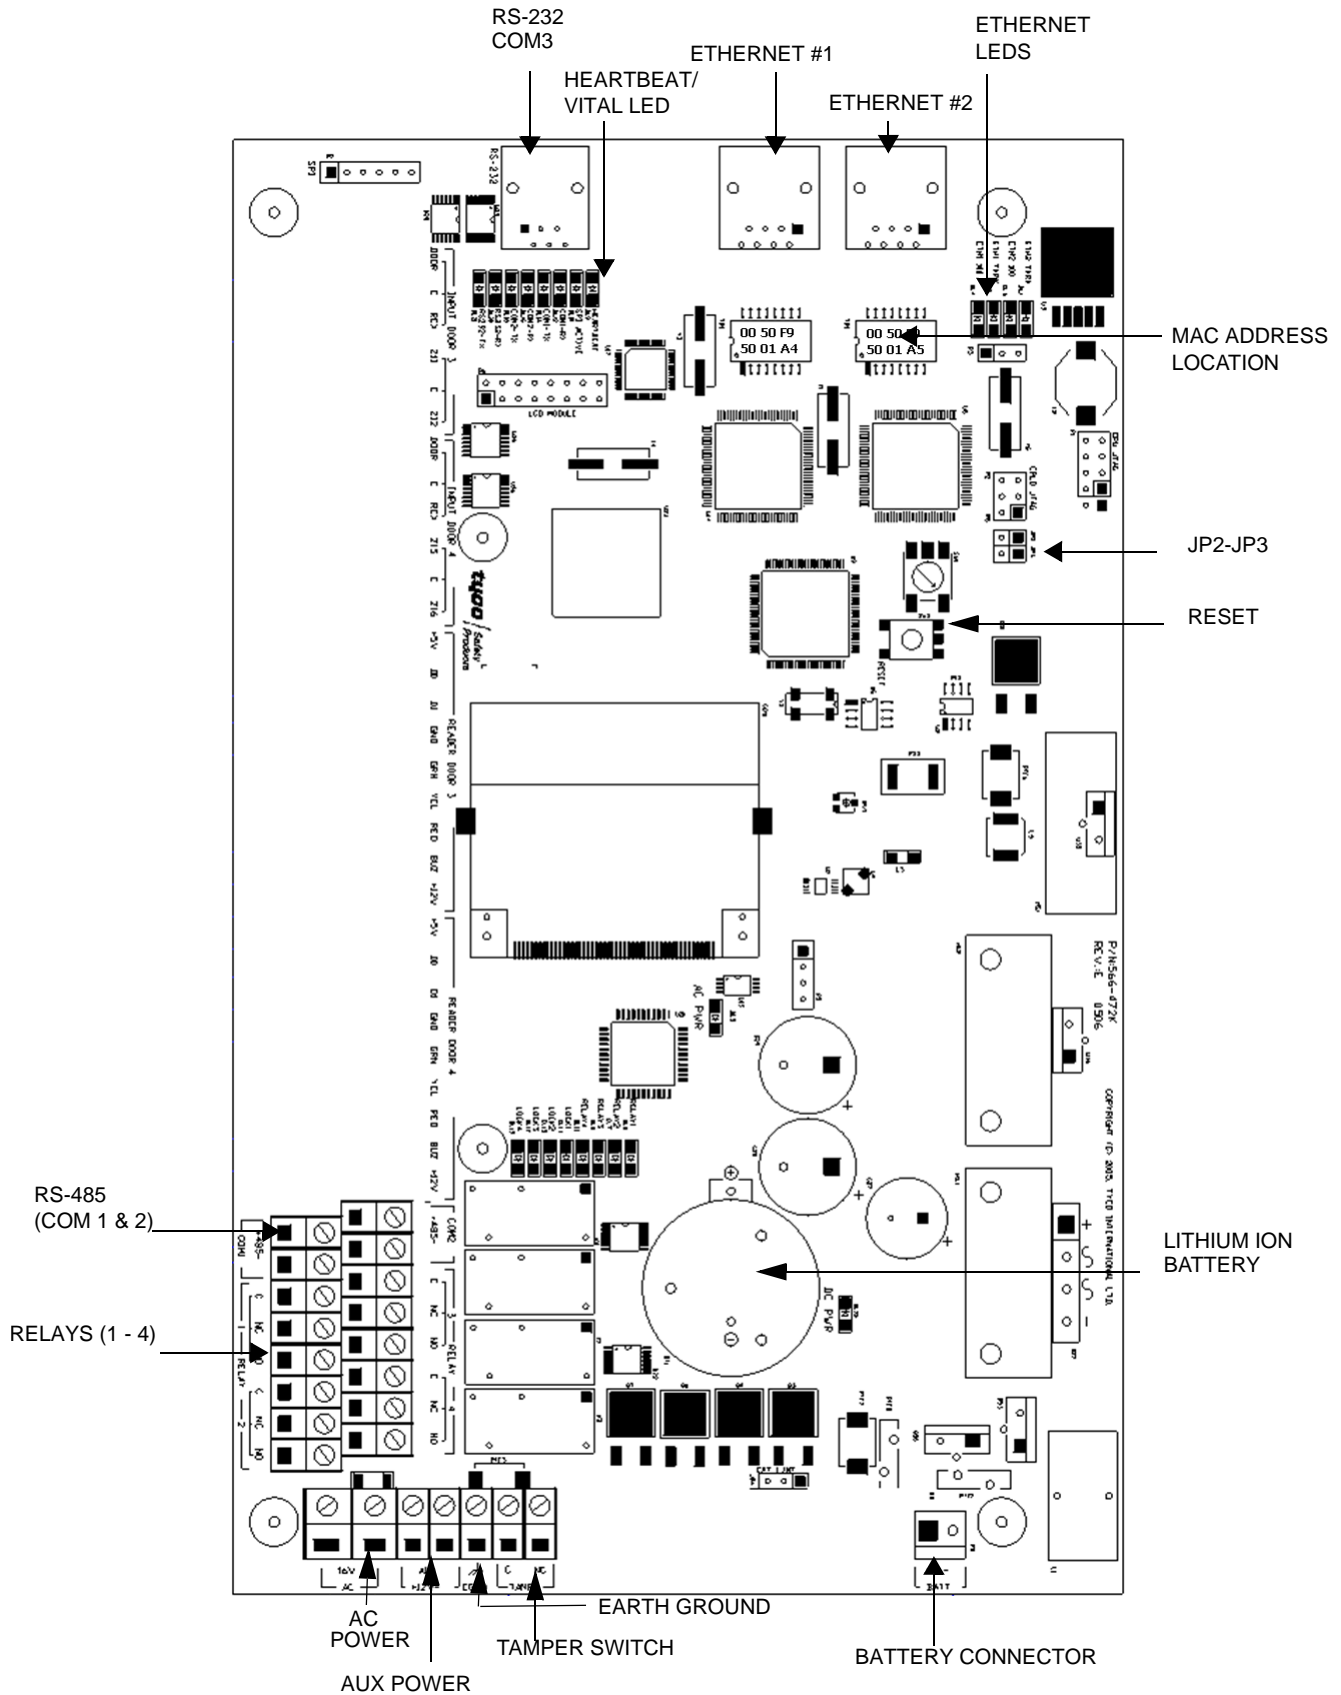

Figure 25 KT-NCC Printed Circuit Board
- The MAC Address of the KT-NCC is already configured. The MAC address is found on the top right of the KT-NCC circuit, under Ethernet Port #1, see Figure 25 on Page 37.
Note: The MAC address can be found on the KT-NCC board, underneath the Ethernet #1 port. It is a 12-digit hexadecimal code, with each two digits separated by a dash (i.e. xx-xx-xx-xx-xx) Refer to Figure 25 on Page 37 to locate the MAC address on the KT-NCC board.